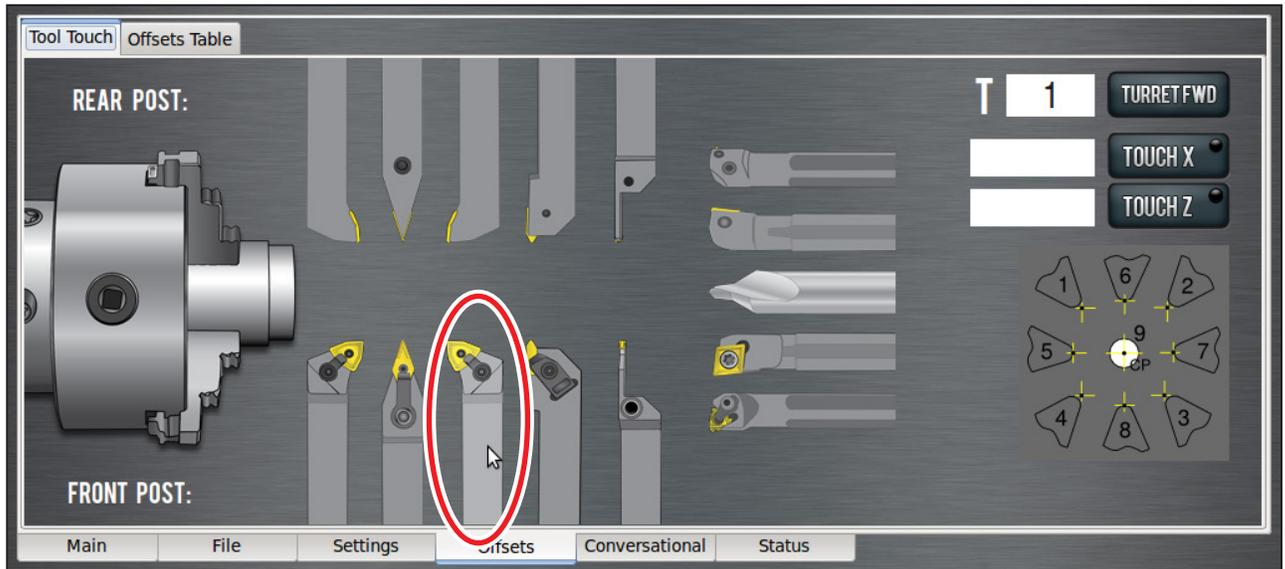

Figure 5.16
**Figure 5.16** shows a right-handed, front tool post turning tool highlighted as mouse hovers over it. Clicking on a tool image does a few things: